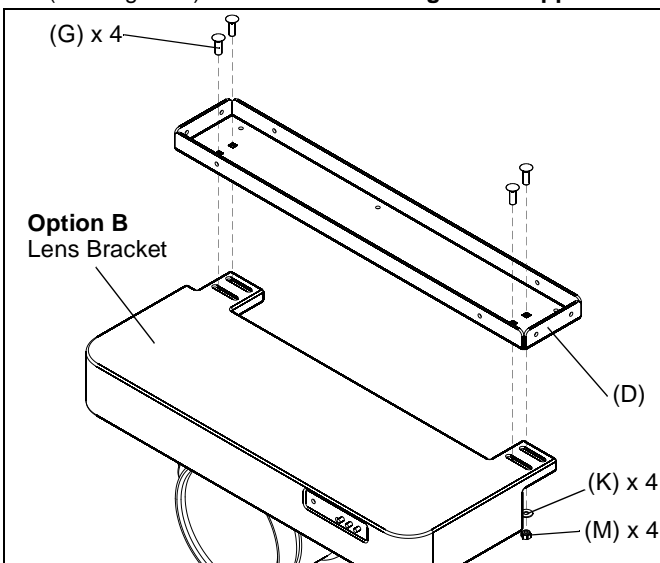

Figure 2
1. Attach lens bracket to bottom front plate (D) using four 1/4-20 x 3/4" round head carriage bolts (G), 1/4" flat washers (K), and 1/4-20 nylon locknuts (M). (See Figure 2) Proceed to **Attaching Lens Support**.